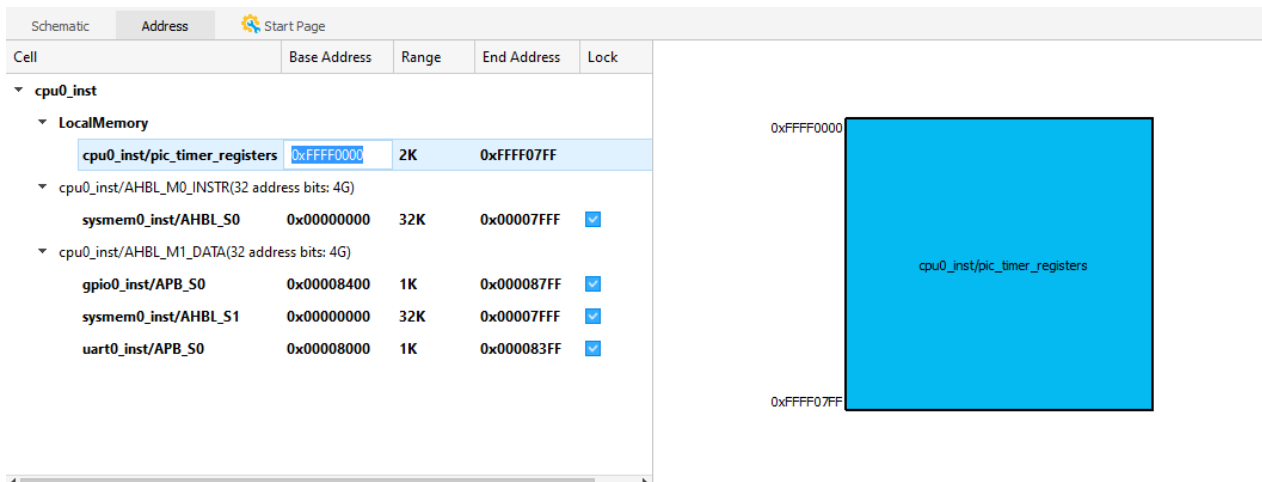

Figure 2.75. Edit Base Address
3. (Optional) Double-click the base address in Address view (Figure 2.75). Type the new value and press **Enter**. Values must align with 1K boundaries, such as 0x00000400, 0x00000800, or 0x00000C00. The end address value changes based on the new value. The Lock option is selected automatically at this time.